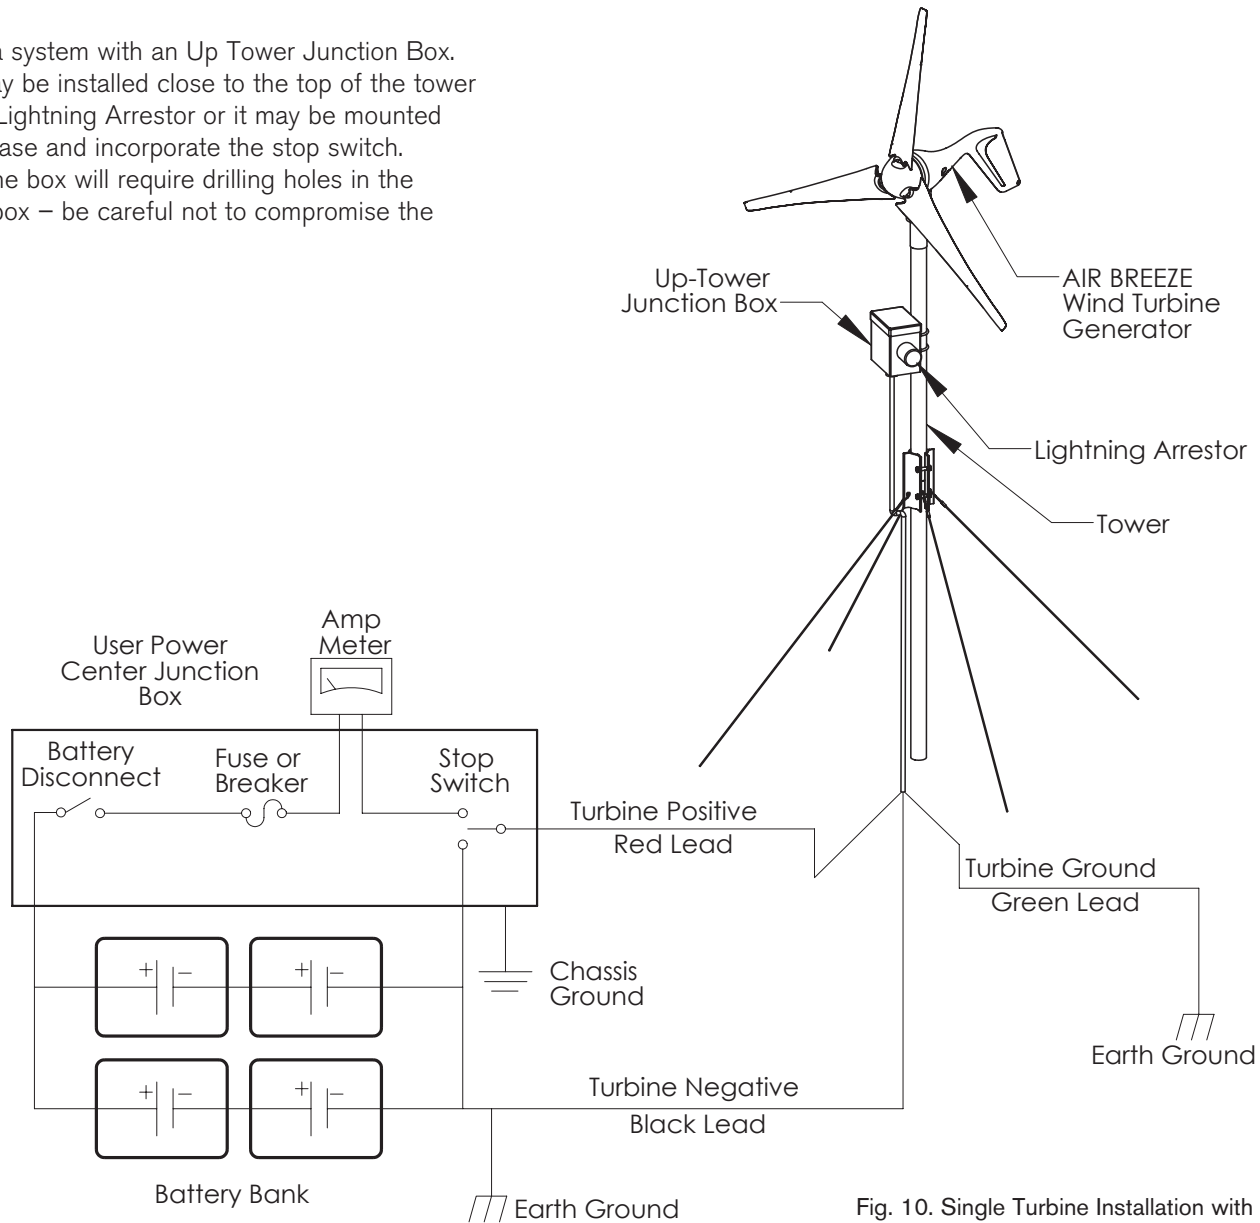

Fig. 10. Single Turbine Installation with Up-Tower Junction Box
**Fig. 10** includes an up-tower junction box for UL (Underwriters Laboratory) compliance. Contact Southwest Windpower for more information about this configuration.
**Fig. 10** represents a system with an Up Tower Junction Box. The junction box may be installed close to the top of the tower to ease installing a Lightning Arrestor or it may be mounted close to the tower base and incorporate the stop switch. Typically installing the box will require drilling holes in the tower to install the box – be careful not to compromise the tower strength.